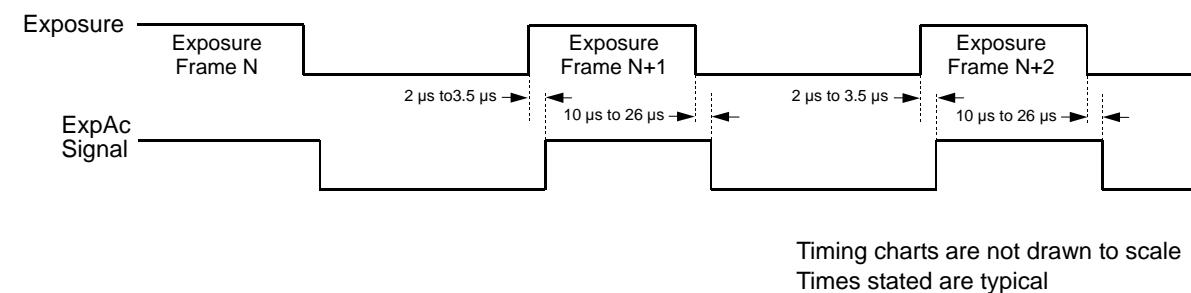

Fig. 79: Exposure Active Signal on Cameras with a Global shutter
- low when the exposure time ends as shown in Figure 79.
When you use the exposure active signal, be aware that there is a delay in the rise and the fall of the signal in relation to the start and the end of exposure. See Figure 79 for details.